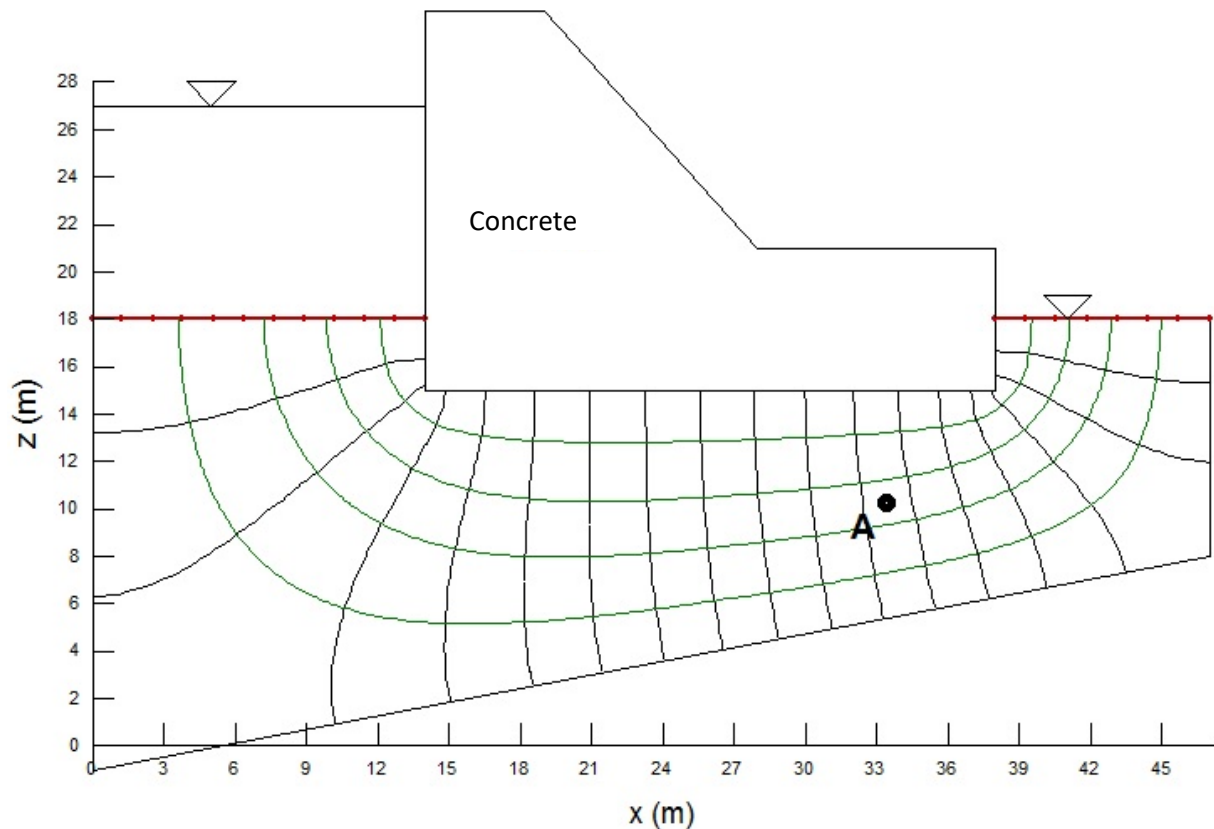

Figure 2: Flow net for question 2.
Figure 2 shows a flow net describing seepage under a dam with a length of 600 m. You can assume that the flow net is drawn using squares. The soil under the dam is a quartz sand. It has a coefficient of permeability  $k = 2 \times 10^{-5}$  m/s and a dry unit weight  $\gamma_d = 18.7$  kN/m3.
- If a piezometer is installed to measure the hydraulic head at point A in Figure 2, what will be the water level in the piezometer pipe? Use the elevation reference system shown in Figure 2 (4 points).